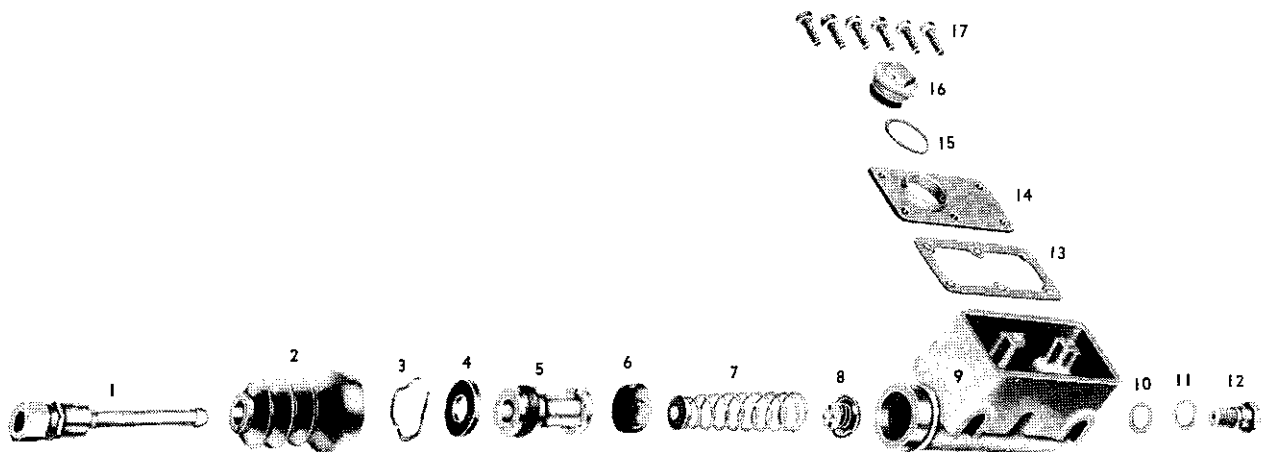

FIG. 373
The master cylinder housing is of the cast aluminum type. The cover over the fluid reservoir as shown in Fig. 373 has been removed for illustration purposes only. It is usually not necessary to remove the cover during the disassembly and servicing procedures.
To disassemble the unit, slip the large end of the boot (2, Fig. 373) from the groove of the master cylinder barrel (9) and remove the boot and push rod (1) assembly. Disassemble the boot and push rod assembly by lifting the small end of the boot from the groove in the push rod and then pulling the push rod from the boot.
Install the check valve (8, Fig. 373) on the return spring (7), and install in the cylinder bore. Place the primary cup (6) and piston assembly (5) in the master cylinder bore and install the piston stop (4) and piston stop lock wire (3). Be sure that the lock wire is well seated in the groove. Install the boot (2) on the push rod (1) and install the assembly on the master cylinder. Install the filler plug (16) and gasket (15). Install the outlet fitting bolt (12) and gaskets (10 and 11), and if equipped with a hill holder, install the hill holder on the master cylinder.